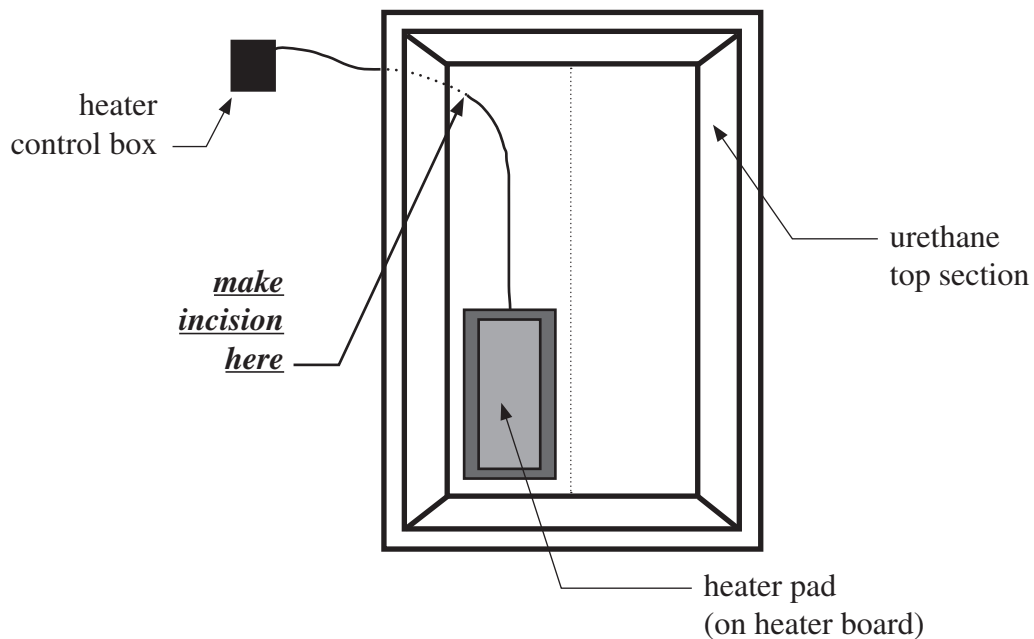

FIGURE 4
11) Make a small incision through the urethane (and integrity liner if applicable) and through the bottom casing, to allow the heater cord to pass through. *See Figure 4.*
12) Push the cord from the heater pad through this incision so that most of the cord is now outside of the bed. Trail the cord out of the head end of the bed and around to the side to meet the position you intend to mount the heater control box. *See Figure 4.*